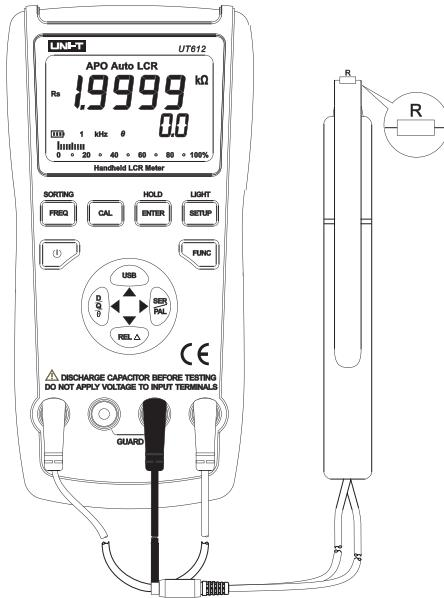

Figure 12
3) Insert resistance into testing port or connect corresponding fittings to measured capacitance (shown in Figure 12).